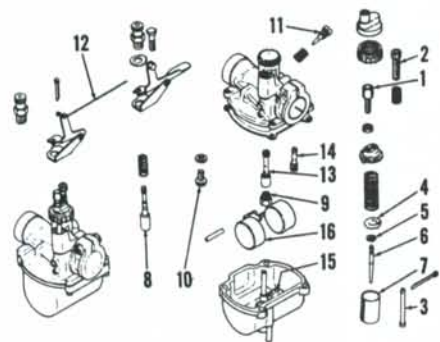
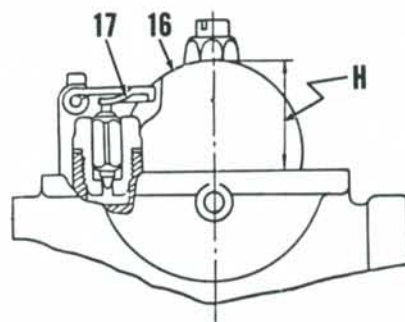

Fig. Y5-1—Exploded view of Mikuni VM carburetor. Starting valves for both carburetors are connected with rod (12).
Fig. Y5-2—Float level (H) is adjusted by bending tang (17).
CARBURETORS. Two Mikuni VM carburetors are used. Idle speed should be set at approximately 1,200 rpm by turning adjusters (2—Fig. Y5-1). Make sure that throttle slides (7) both stop at exactly the same position and exhaust pressure is the same for both cylinders. Idle mixture is changed by turning needles (11). Initial setting is 1½ turns open. Turning the needle counter-clockwise leans the mixture. Carburetors must be synchronized to open ex-
Float level (H—Fig. Y5-2) should be 25.5MM (1 in.) and is adjusted by bending tang (17) on float. Refer to Fig. Y5-1 and the following standard specifications:
Before adjusting the pump control cable, it is important that the throttle cable guides (1—Fig. Y5-1) are correctly set. To adjust the throttle cable guides, turn the idle speed adjusters (2) all the way down, then synchronize cable guides (1) so that both throttle slides (7) begin to move at exactly the same time when the hand grip is turned. The throttle cables should have approximately 1/16-inch free play after they are synchronized. Adjust the idle speed to 1,100-1,300 rpm by turning both idle adjusters (2). Make certain that both throttle slides stop at exactly the same time. Turn the throttle hand grip just enough to take up free play from the throttle cables (without changing idle speed) and check the oil pump setting mark and guide pin as